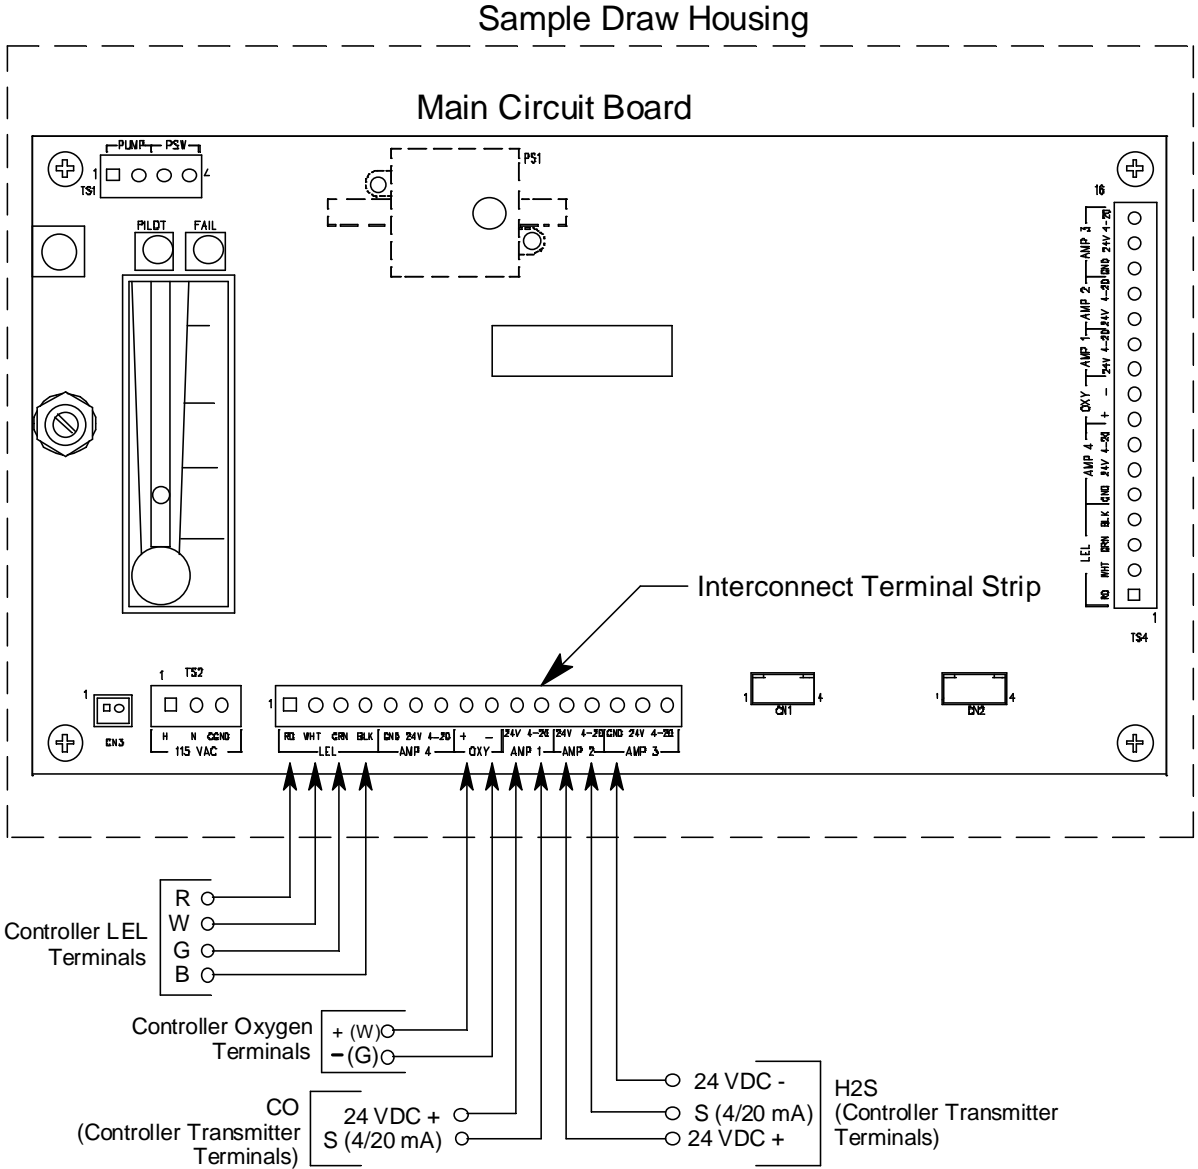

Figure 5: External (Field) Wiring, Sample-Draw Detector
5. Connect the cable to the sample-draw detector's interconnect terminal strip as shown in Figure 5.
8. Connect the cable or wires at the controller to the appropriate channels' detector/transmitter terminal strip as shown in Figure 5. Refer to the controller's operator's manual for the controller's detector/transmitter's terminal designations. The LEL and oxygen detector channels are direct connect and the CO and H2S channels are 4 - 20 mA transmitters.